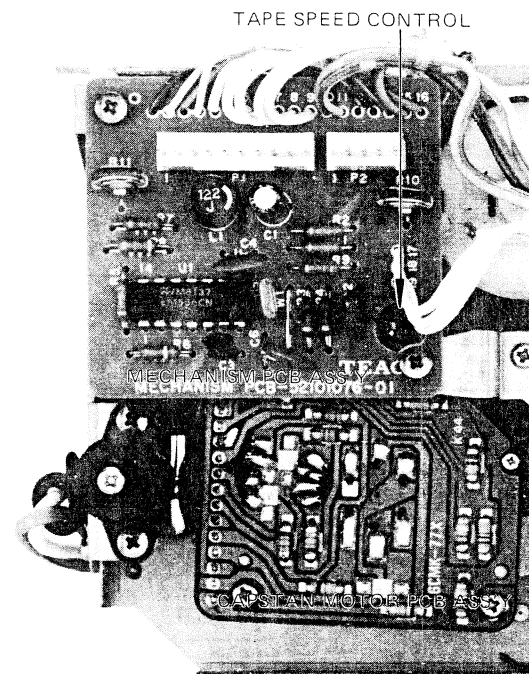

Fig. 5-9
3. While the tape is playing, use a non-metallic screwdriver, and adjust the tape speed control (semi-fixed variable resistor) on the capstan servo PCB (see Fig. 5-9) for a reading of 3000 to 3010 Hz on the frequency counter.